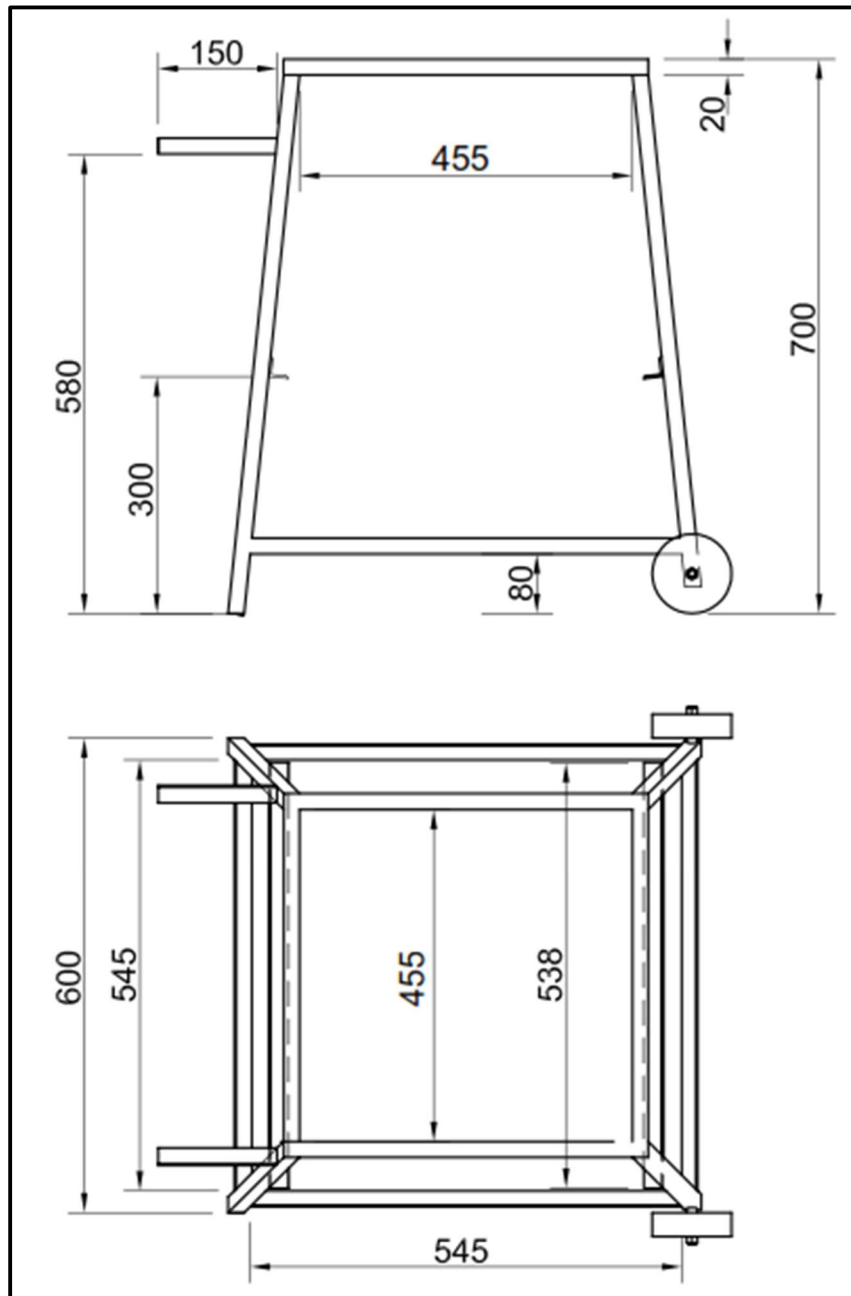

FIGURE 3 – BRAAISTAND FRAME
- Cut material to size as indicate in Figure 3